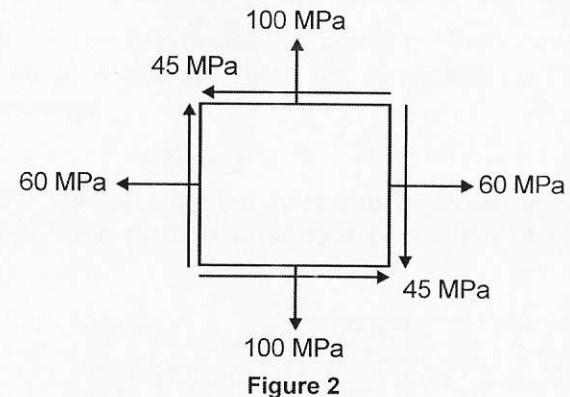

Figure 2
3. A square element is subjected to the two dimensional state of stress as shown in the Fig.2. Find out the major and minor principal stresses and the maximum shear stress using Mohr circle. Find out the normal and shear stresses on a plane incline at an angle 25 degree with the principal plane.